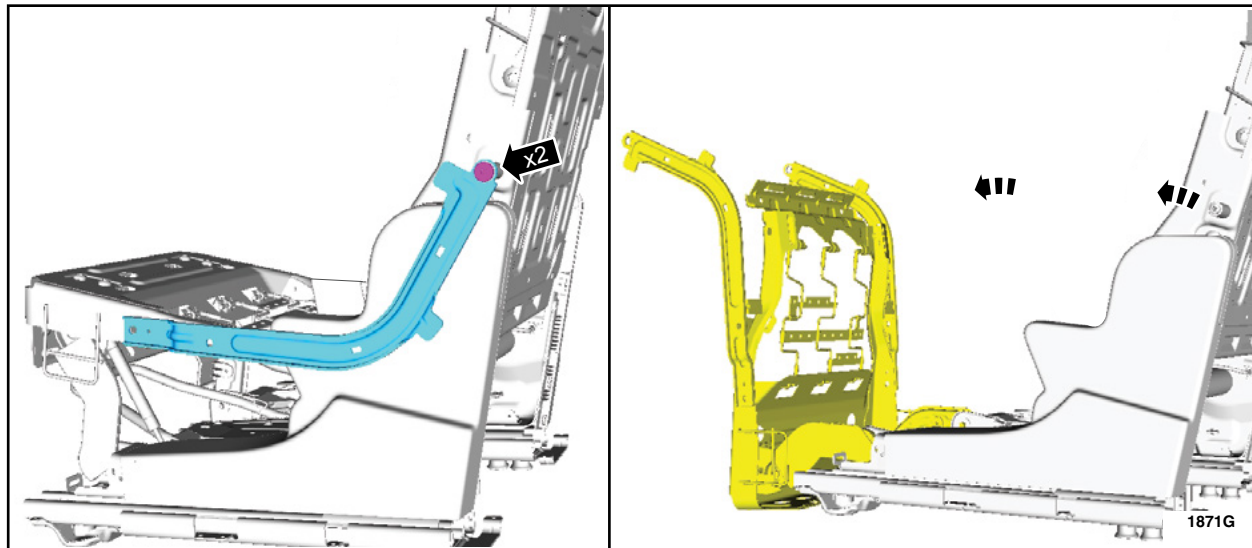

FIGURE 14
NOTE: The replacement frame will be shipped with the seat cushion pivot arms assembled to the seat backrest frame. It will be necessary to remove the replacement frames seat cushion pivot arm retainers before continuing with the installation of the seat components. See Figure 14.
16. On both sides of the *new* seat frame, remove the seat cushion frame pivot arm retainers from the seat backrest frame and position the seat cushion frame forward. See Figure 14.